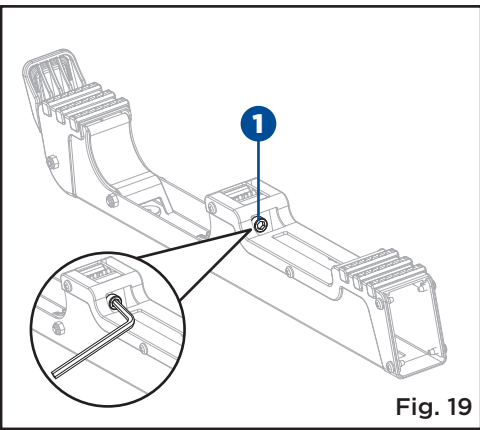

Fig. 19
- Unlock two fence lock knobs (1) on the rear of the fence.
- Remove both left and right sliding fences (2) from the saw.
- Turn four back fence knobs (3) from the horizontal position to the vertical position.
**BRACKET ADJUSTMENT BOLT (Fig. 19)**